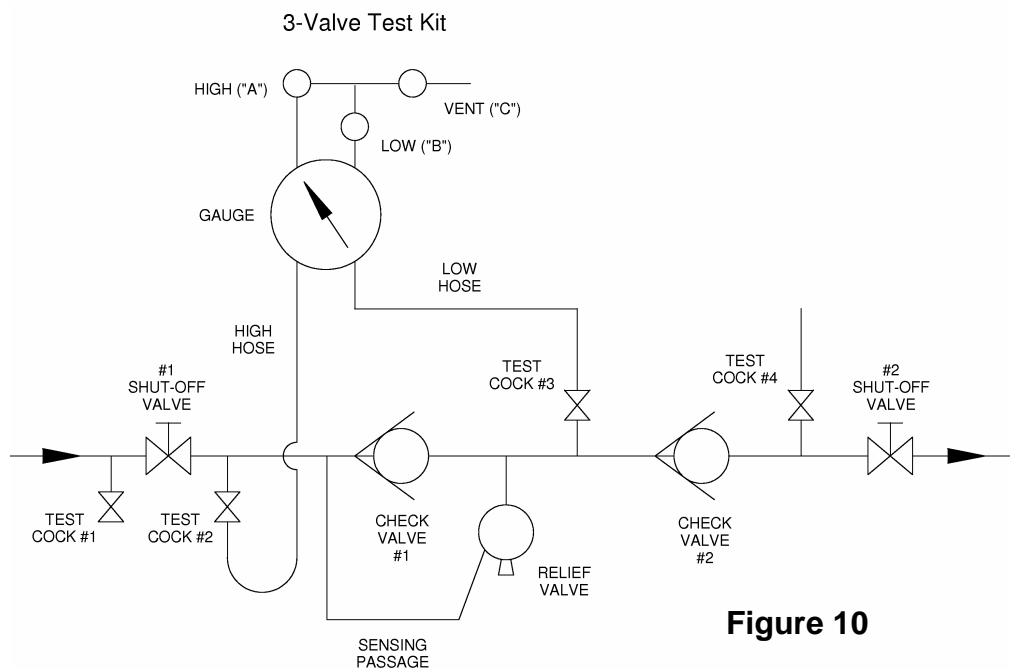

Figure 10
**NOTE:** This 3 valve test kit procedure may not be approved in all jurisdictions. Consult your local water purveyor for acceptable test procedures. See Figure 10 for test schematic.